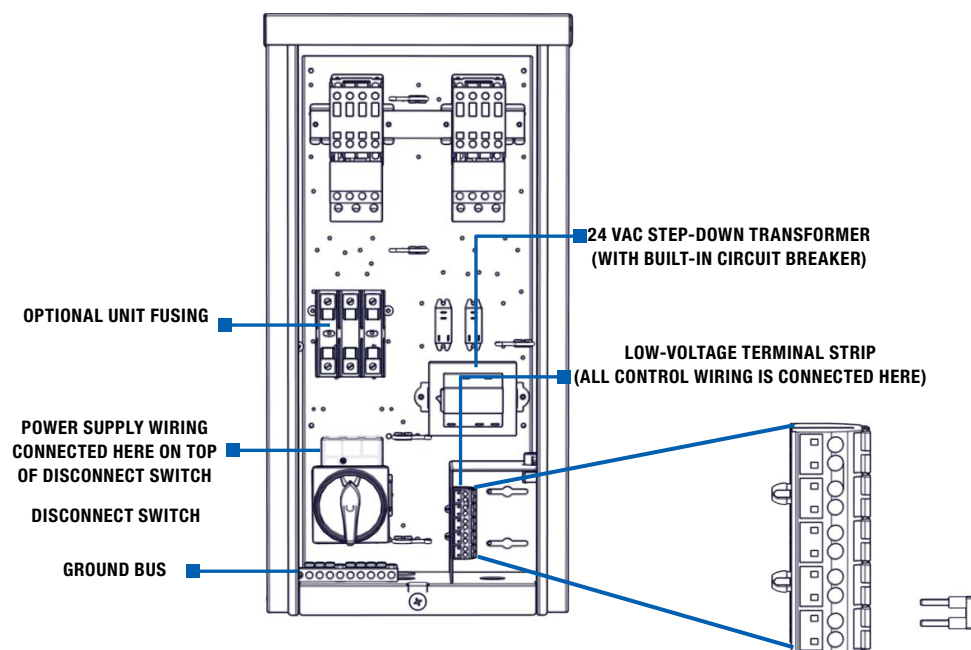

FIGURE 2.4.0 E-BOX WITH MOTOR STARTERS
**NOTE:** Every ERV has an attached electrical connection box, known as the E-Box. It is attached to the outside of the ERV and all electrical connections are made there. There is a high-voltage side and a low-voltage side. See Figure 2.4.0.